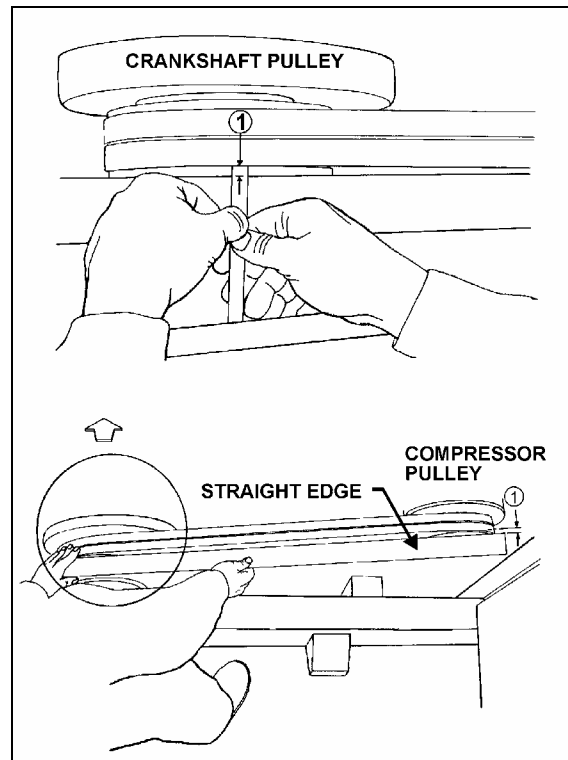

FIGURE 25: COMPRESSOR ALIGNMENT
2. Check the distance between each extremity of straight edge (1, Fig. 25) and the first drive belt. If they are different, loosen the compressor support bolts and with a hammer, knock support to slide it in order to obtain the same distance; then tighten bolts.
2. Check the distance between each extremity of straight edge (1, Fig. 25) and drive belt. If they are different, loosen the pillow block compressor bolts and with a hammer, knock compressor pillow block to slide it, in order to obtain the same distance; then tighten bolts.